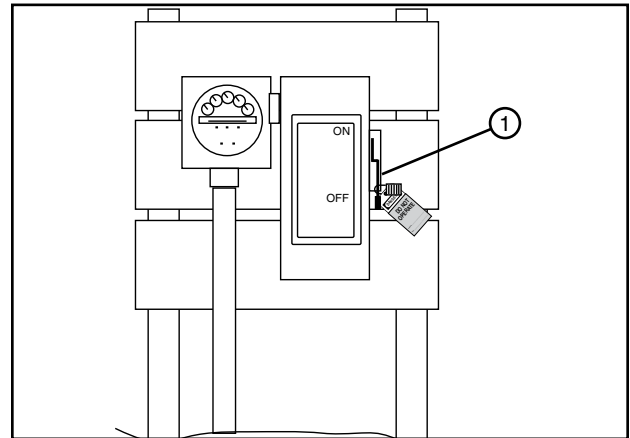

Figure 101-1 1. Public Power Service Disconnect
1. SHUT OFF and LOCK the public power service disconnect to the irrigation machine. See figure 101-1.
FILL OUT the blue (OSHA safety color code) tag and attach to the disconnect after locking. See figure 101-1.